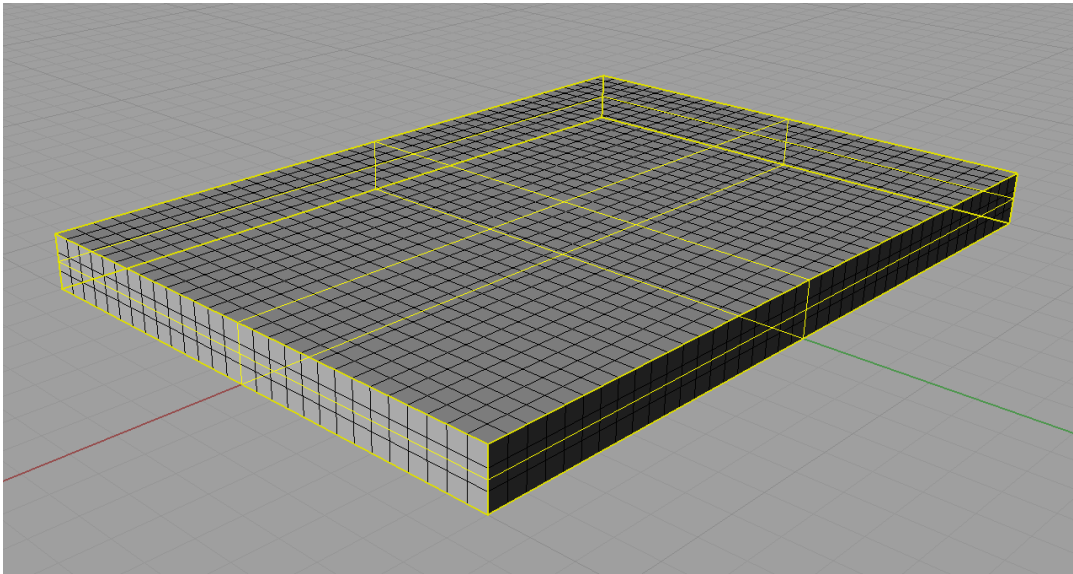

Figure 31: The newly meshed continuous surfaces showing a well conditioned mesh.
- ☞ When completed, the mesh and continuous surfaces should both remain as shown in Figure 31.